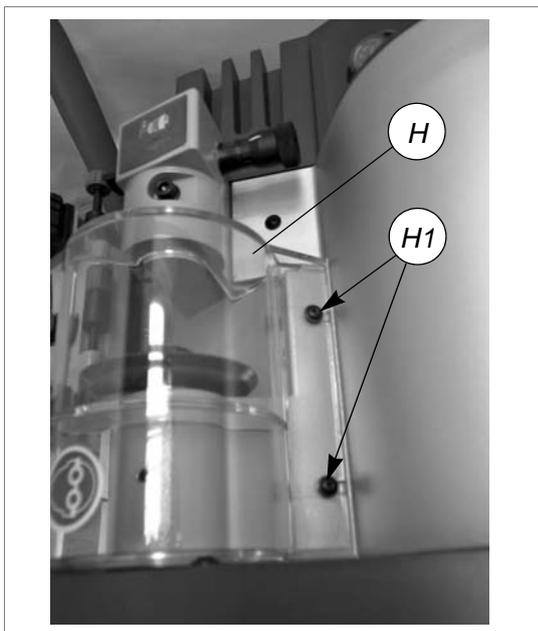

Fig. 20
- 2) Remove the cutter locking screw (H1) and remove the cutter protective shield (H) (fig.20).